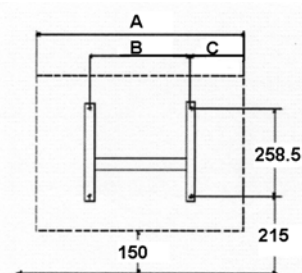

Fig.2
2. Fix wall bracket securely to wall via the three or four holes in the bracket with the appropriate fixings for the wall type (see Fig.2)